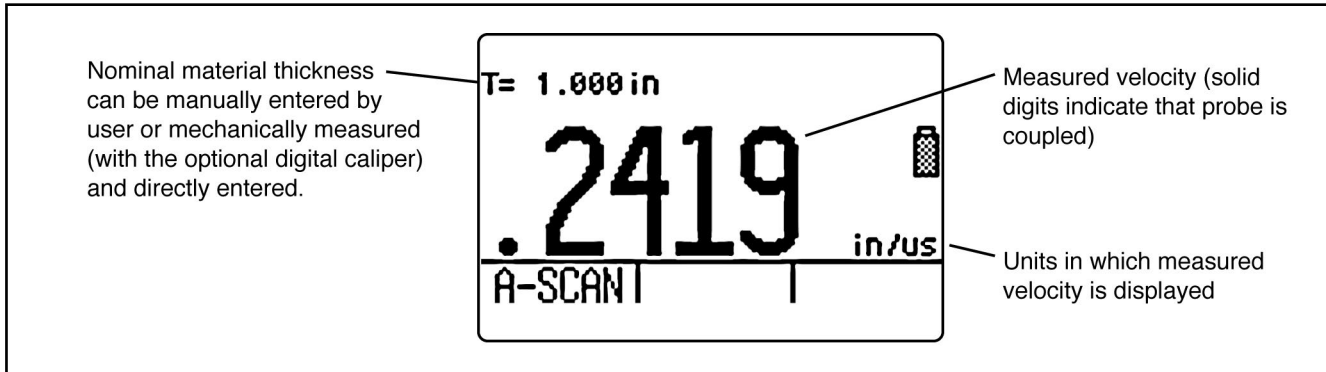

FIGURE 4-5—VELOCITY view mode allows measurement of acoustic velocity based on a user inputted (or manually measured) mechanical thickness.
3.2.3) or by using the digital micrometer supplied with all instruments that incorporate the Velocity option. (Figures 4-5 and 4-6). Note that when operating in VELOCITY view mode, material velocity values may be entered for MINIMUM and MAXIMUM ALARMS (Section 3.4)